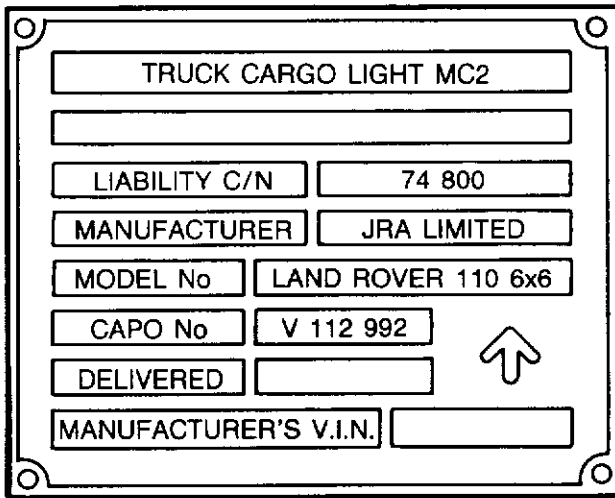

Figure 1-19 Vehicle nomenclature plate
95. Vehicle nomenclature plate (Fig. 1-19)